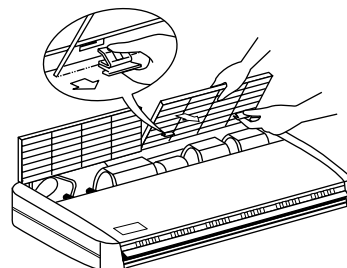

Fig. 4
- Keep the suction grille opened. Holding the knob on the back of suction grille, pull to the front direction to remove. **(Refer to Fig. 4)**